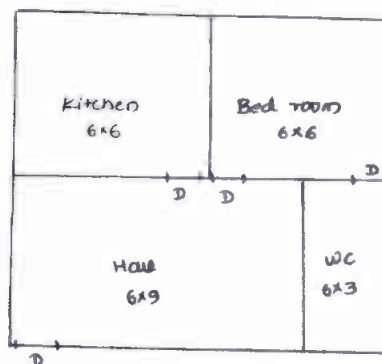

Fig.Q3(b) All dimensions are in meter
b. Fig.Q3(b) shows the plan of residential building, which has to be wire up with casing and cupping wiring system calculate the following :
b. Fig.Q3(b) shows the plan of residential building which has to be wire up with conduit wiring system calculate the following :